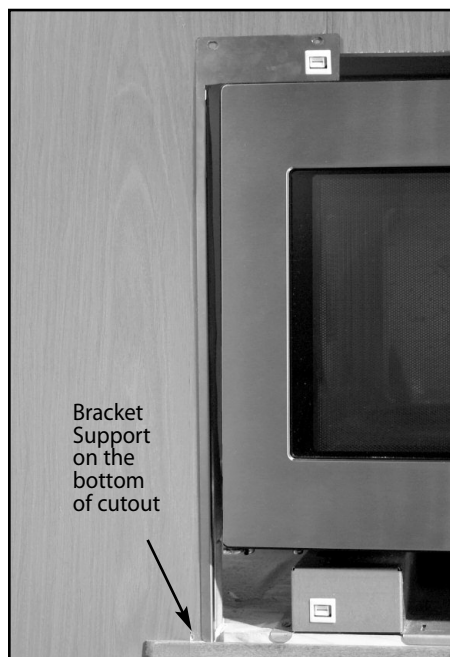

Fig. 04
7. Place the right and left mounting bracket supports by resting the bottom edges of the supports on the bottom of the cutout (Fig 04). The long flange on the side supports should clear the side of the cutout by approximately 1/16" (Fig. 05). Install top and bottom screws into the cabinet face by first drilling 1/8" pilot holes (see inserts 3 and 4).